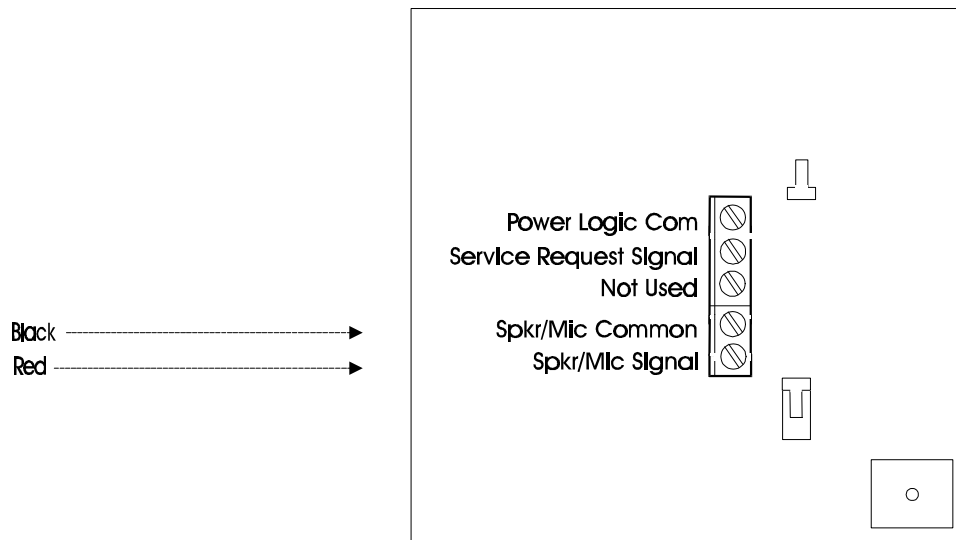

Figure 4
3. Connect red wire to the spkr/mic signal input of terminal block. Connect the black wire to the spkr/mic common position of terminal block. If shield and black wires are not connected together cut off shield at end of cable insulation . Do not connect to post or menu board (see figure 4 below).
2. Run small jumper wire between spkr/mic common and power logic common positions of terminal block (see figure 4).
3. Connect shield to service request signal position of terminal block (when using a PFS switch the shield and black wires cannot be connected together inside). Inside connection of shield will be to Service Request/Vehicle Detection position of three position terminal block on inside unit (see figure 4).